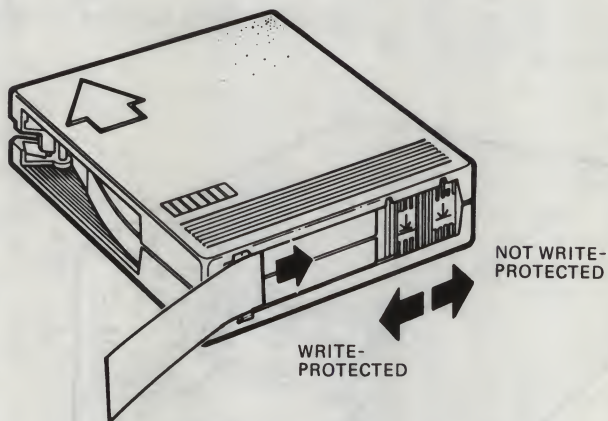

Figure 2-4 Labeling and Write-Protecting a TK50 Tape Cartridge
- Insert the label in the slot on the front of the tape cartridge (Figure 2-4).
Write-protecting a tape cartridge prevents accidental overwriting of information stored on the tape (Figure 2-4).